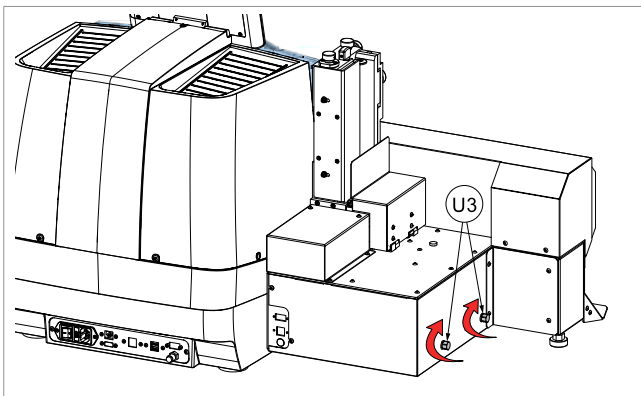

Fig. 34
- 3) Screw the hexagonal head of the pins (U3) to lock the feeder onto the machine (Fig. 34).